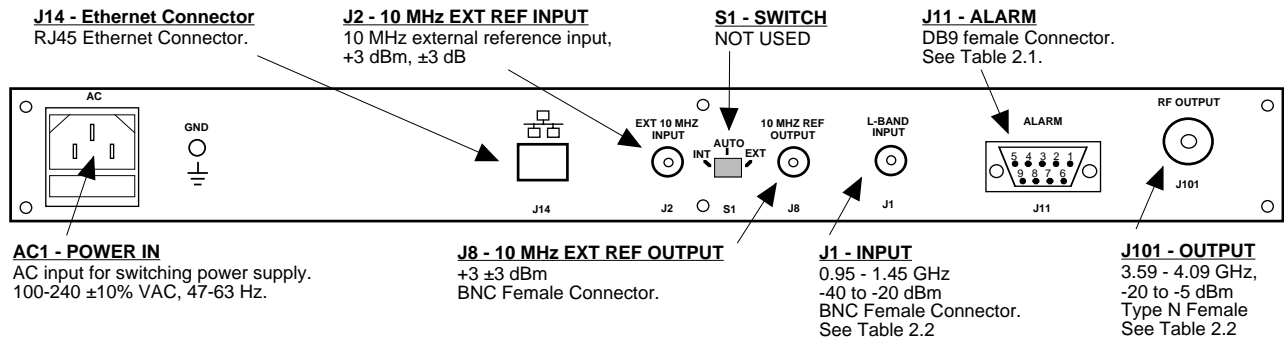

FIGURE 2.1 3115-35 Rear Panel I/O's
Figure 2.1 shows the input and output connectors on the rear panel.
1. Connect a -40 dBm to -20 dBm signal to RF IN, J1 (Figure 2.1).